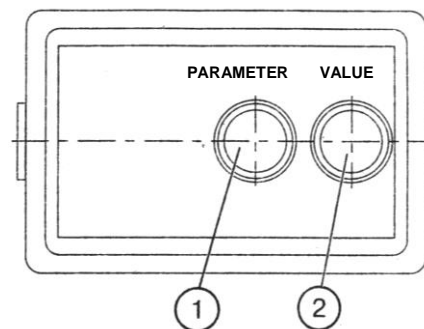

Fig. 2. Control board (A3):
- On setting the starter and instrument switch is put to position I when the tractor is stopped, the display (7) shows the engine running hours (5);
- When the tractor is moving, the display (7) shows the tractor speed indication (6) (km/h), while the indication (5) disappears. The electric signal of the speed comes from the speed sensors mounted on the rear axle cover (BV1, BV2). The speed readings are taken through a signal from the sensor mounted on the pinion of the final drive of the wheel rotating at lesser speed. The calculated speed is higher than the actual one, because no tractor skid is taken into account;
- On starting the engine, the pointer indicator (8) moves round the index dial (1) to display the rotational speed of the engine crankshaft. At the same time, the display (4) shows the PTO indication (rpm). The scale (3) is assigned to the PTO I and the scale (2) – to the PTO II. The electric signal of the rotational speed is taken from the phase winding of the alternator.
1.2. Tachospeedometer control board (Fig. 2)
- Press the button (1) to enter the programming mode (Fig. 2).
- press the button (1) of the board and call the parameters "Z" and "R" in turn to the display (3) of the tachospeedometer (4);
- press the button (2) of the board and set the number of teeth (Z) according to Table 1 and value Rk according to Table 2: